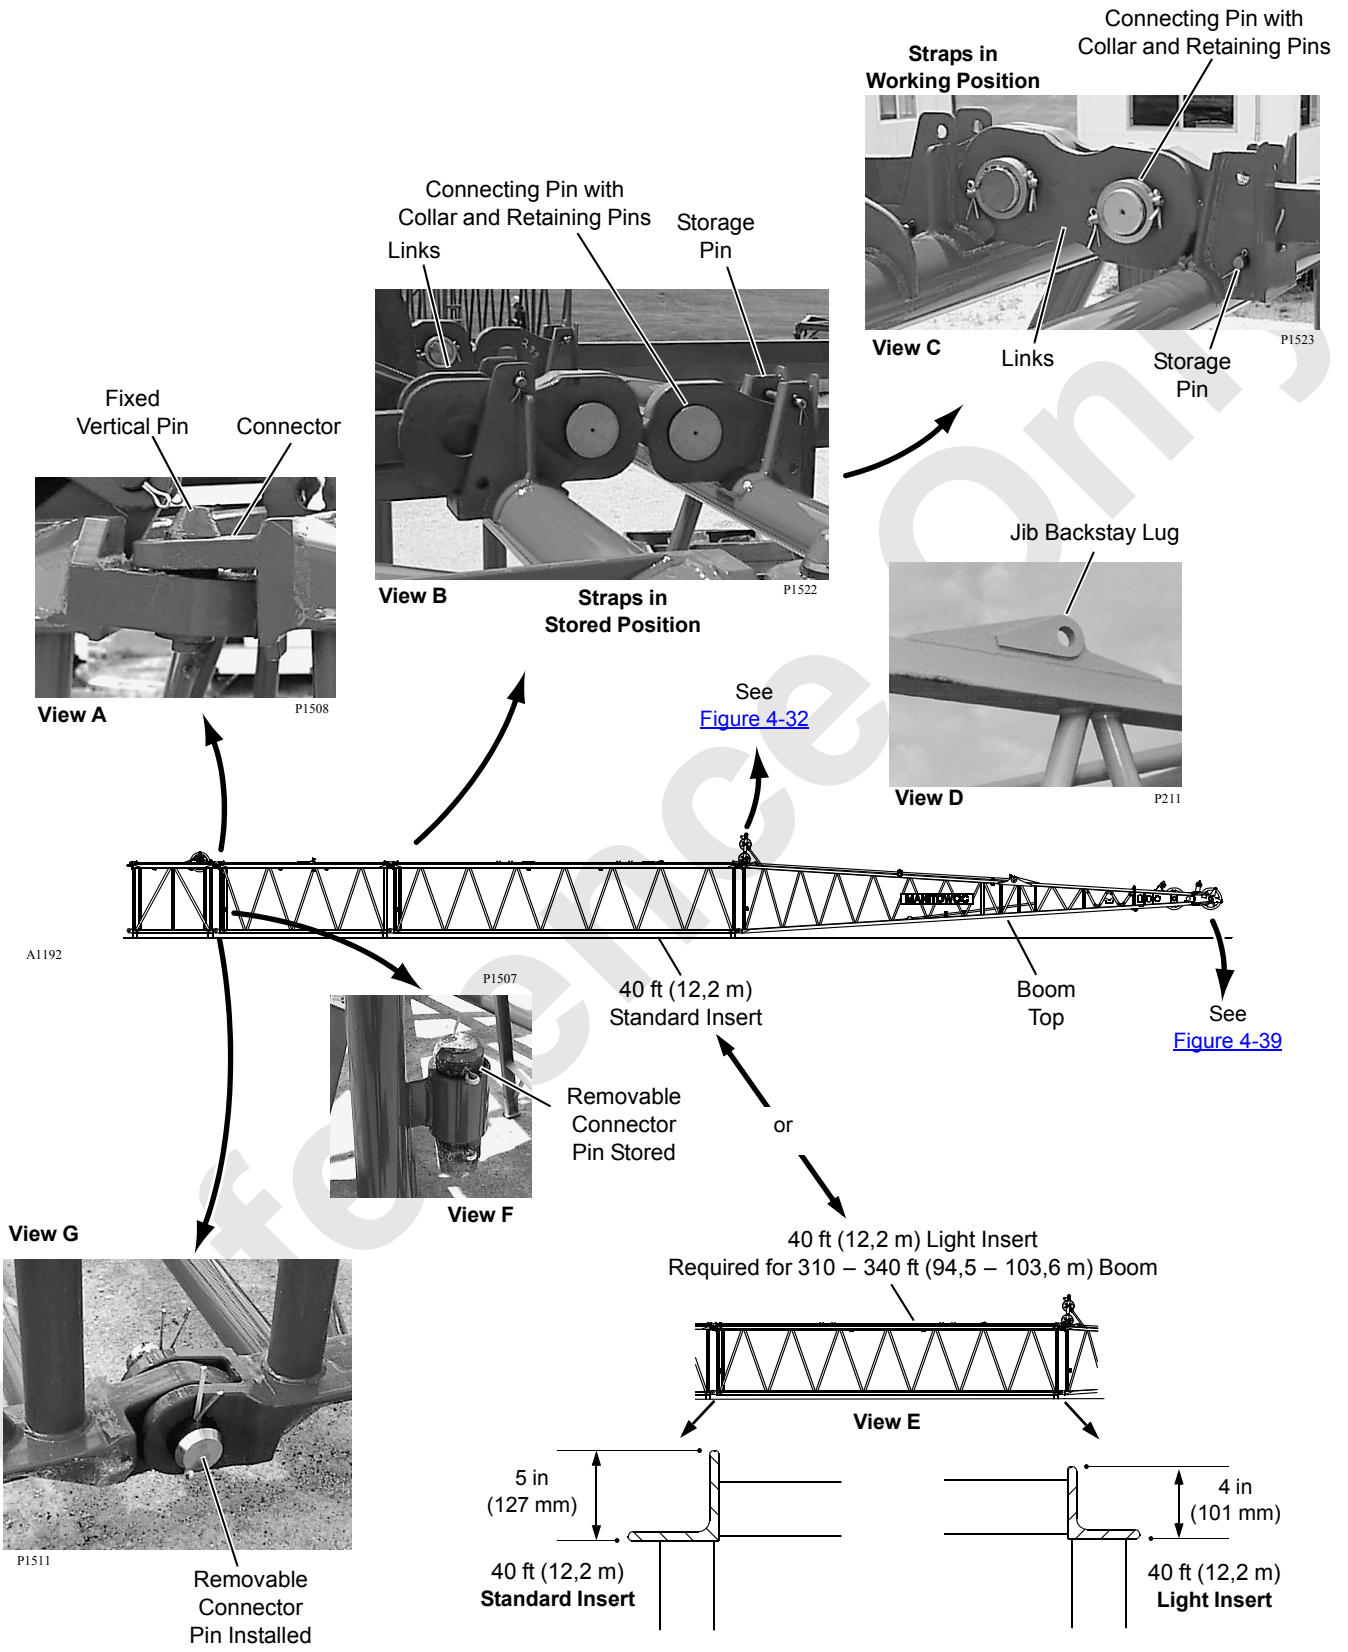

FIGURE 4-36
See Figure 4-36 for the following procedure.
1. Remove standard connecting pin (1) securing links (3) to strap (View A).
2. Using pin (2), attach strap links (3) and intermediate suspension link (4) to strap (View C).
3. Store standard connecting pins (1) in lugs on links (4) (View D)
4. Remove standard insert connecting pin (Figure 4-36, View G) and store in pocket on insert (Figure 4-36, View F).
5. Using pin (5), install link (6) and reconnect inserts (View E).
7. Using pins (7), attach lower pendants (8) to links (6) (View F).
8. Using pins (7), attach upper pendants (8) to links (4) in Position A or B, depending on boom length (View D).
9. Using pins (7), attach upper pendants and lower pendants (8) to link (9) (View H).